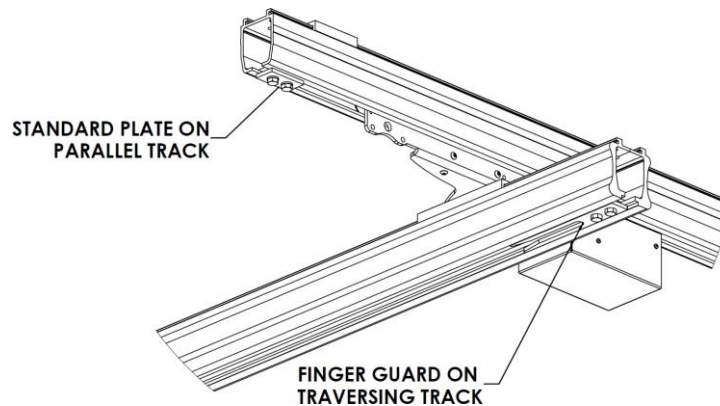

Figure 53: ***Exchange the Finger Guard with the Track Endstop Plate***
3. On the charger endstop assembly of the parallel track, exchange the finger guard with the track endstop plate supplied with the X/Y Gantry Trolley (Figure 53).